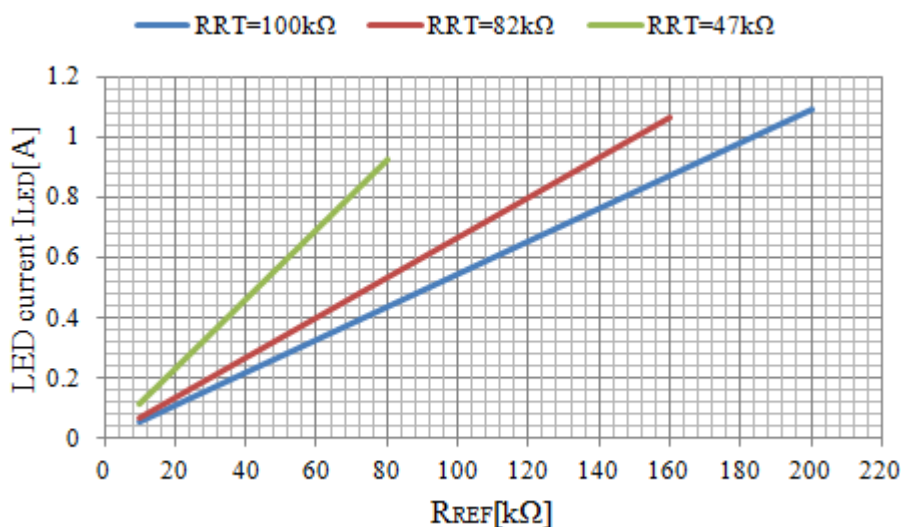

fig.10 $V_{IN}=110VDC$, R_{REF} vs. I_{LED} @ $R_{CS}=2.2\Omega$, $V_{REF} \leq 2.5V$
When this is graphed, a fig 10 is shown.
And, in the above relations, when R_{REF} adjusting, it becomes high dissipation that R_{RT} is big, and switching frequency is slow. Though the calculation example of the fig 10 is fixed with $R_{CS}=2.2\Omega$, when this is made 1Ω , the LED current is 2.2 times. Be sure to take a heat-generation of the external powerMOSFET into consideration, adjust I_{LED} by R_{RT} and R_{REF} with the actual working confirmation.
A fig 12 (A) is a variable method which variable-resistor is used as R_{REF} . A fig 12 (B) is maximum dimming by R_{REF0} , and turns on Q1 and Q2 one after another, and composition resistance value is lowered by parallel connection of R_{REF1} and R_{REF2} , and it is the variable method which sets I_{LED} at three steps. Like the fig 10, LED current I_{LED} can be decreased by making R_{REF} small.